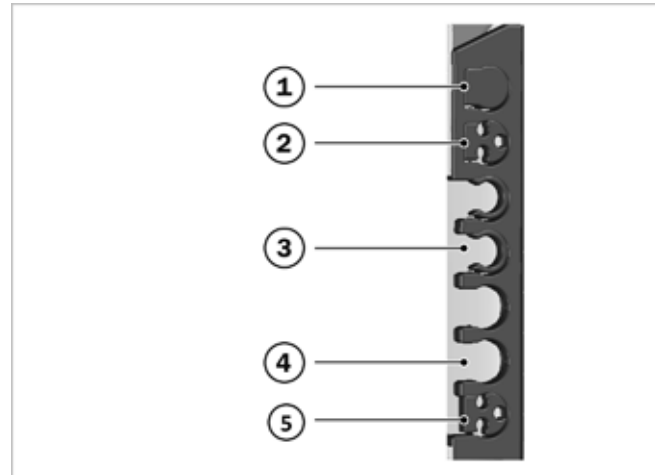

Fig. 45: Inserts for the pipe lead-throughs
4. Using a 3x reducer (see → fig. 45, 2), guide the other end through the pipe lead-through on either the left or right-hand side of the frame. Ensure that there is a sufficient incline.
2. Guide the gas line through one of the top pipe lead-throughs on the left or right-hand side of the frame using a 3x reducer (see → fig. 45, 2).